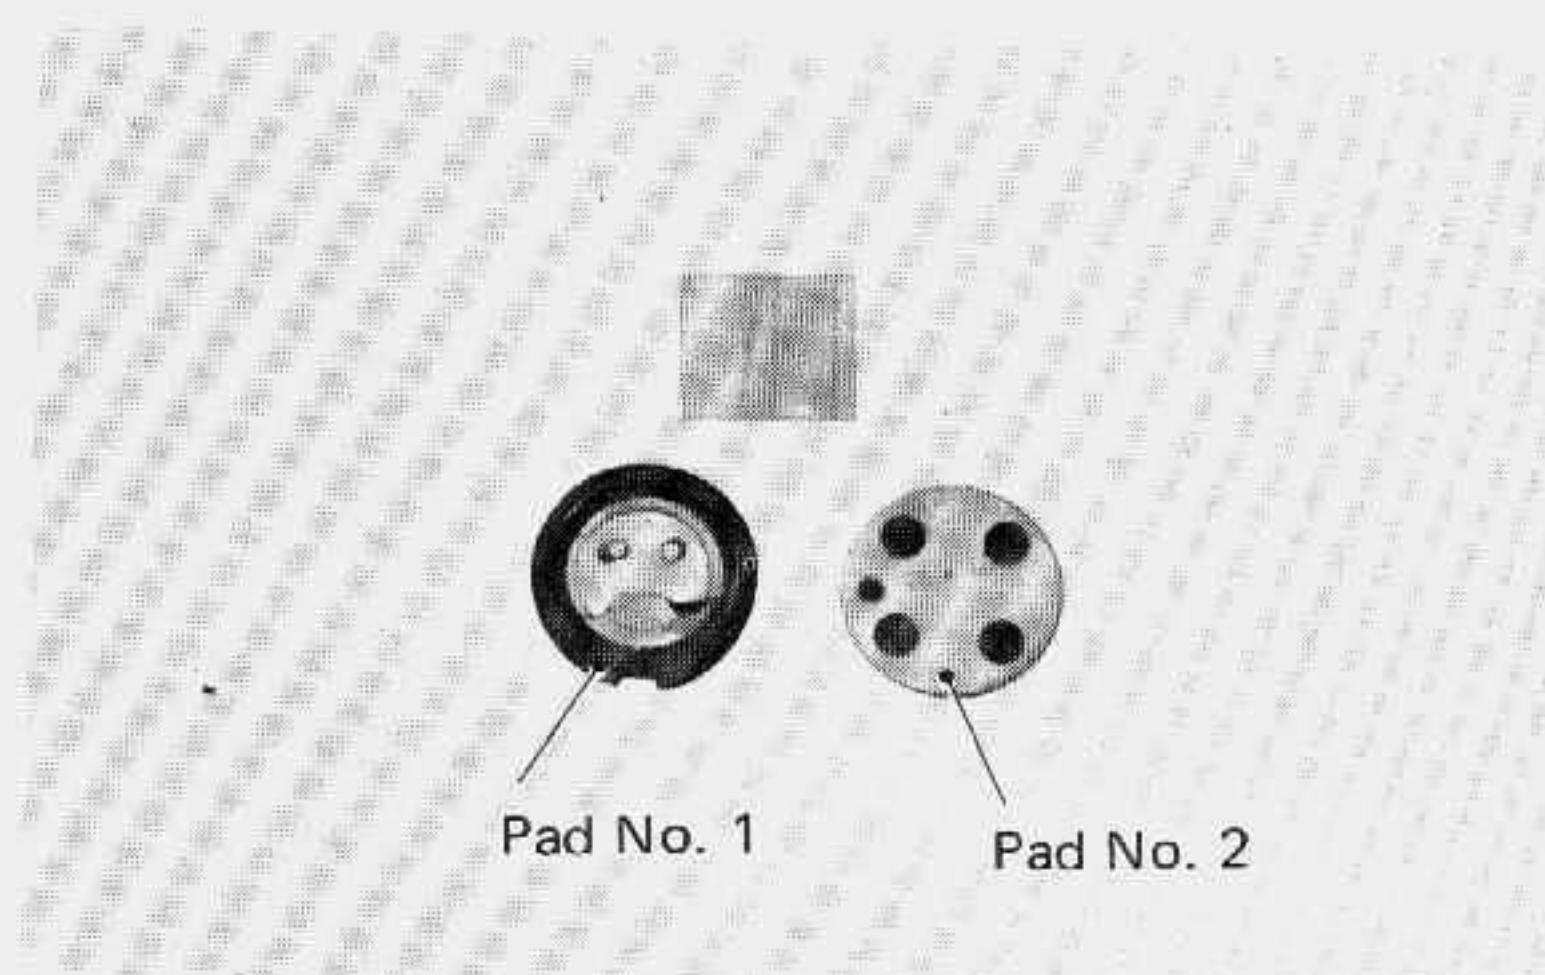
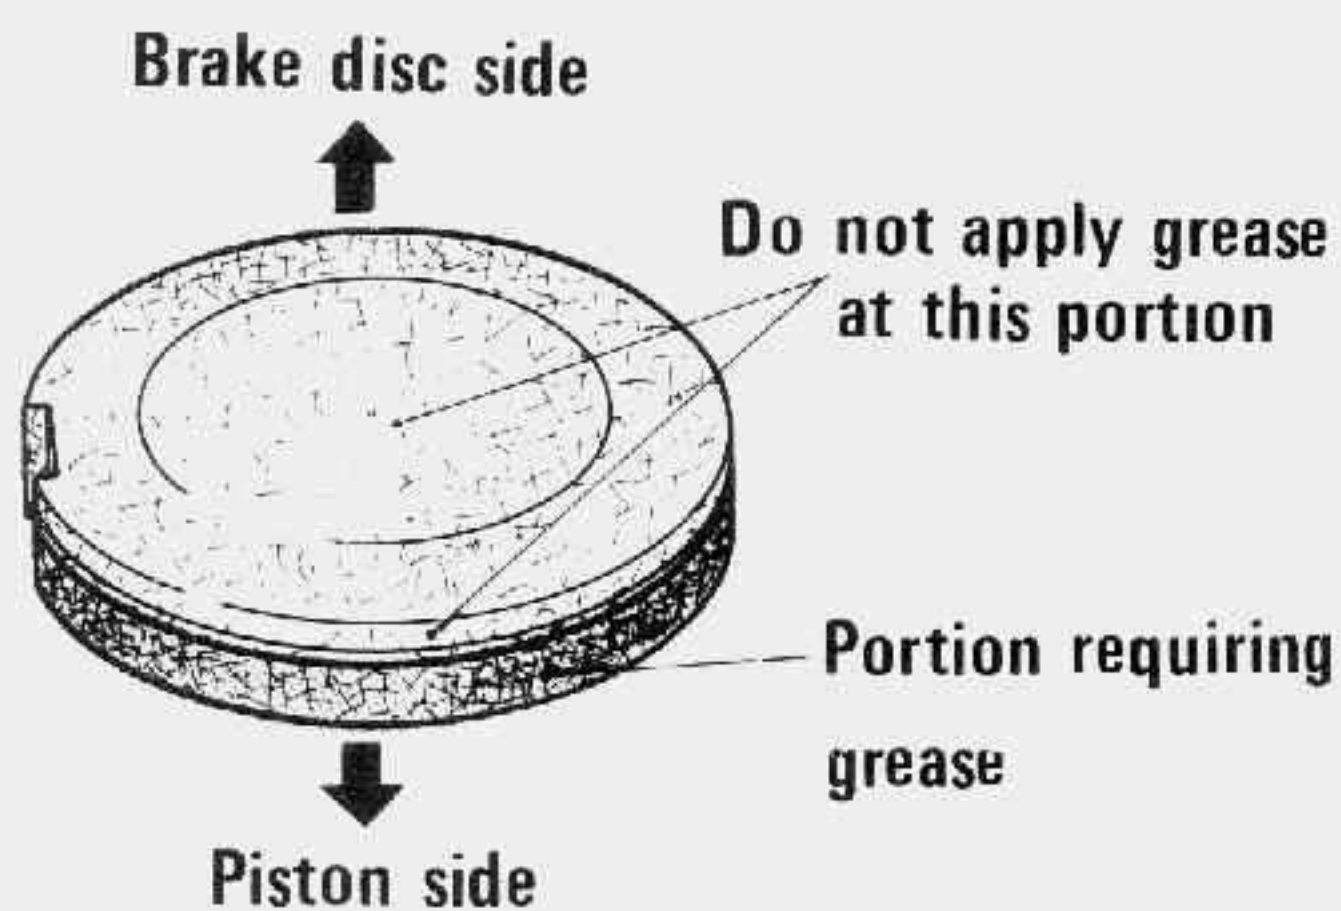

Fig. 8-2-7.
Fig. 8-2-8.
- e) Apply Suzuki Brake Pad Grease, which is provided as a component of Pad Set as shown in Fig. 8-2-7, onto the periphery and back plate of pad No. 1 as illustrated in Fig. 8-2-8 in a very thin layer.